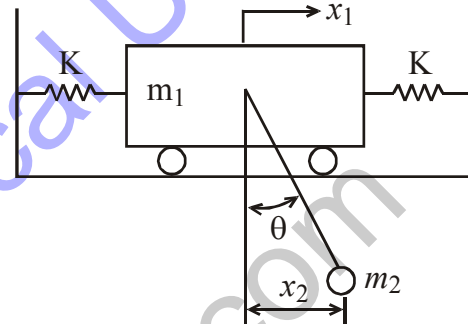

Fig. 1
6. Derive the equation of motion of the system shown in fig. 1 and find its natural frequencies.